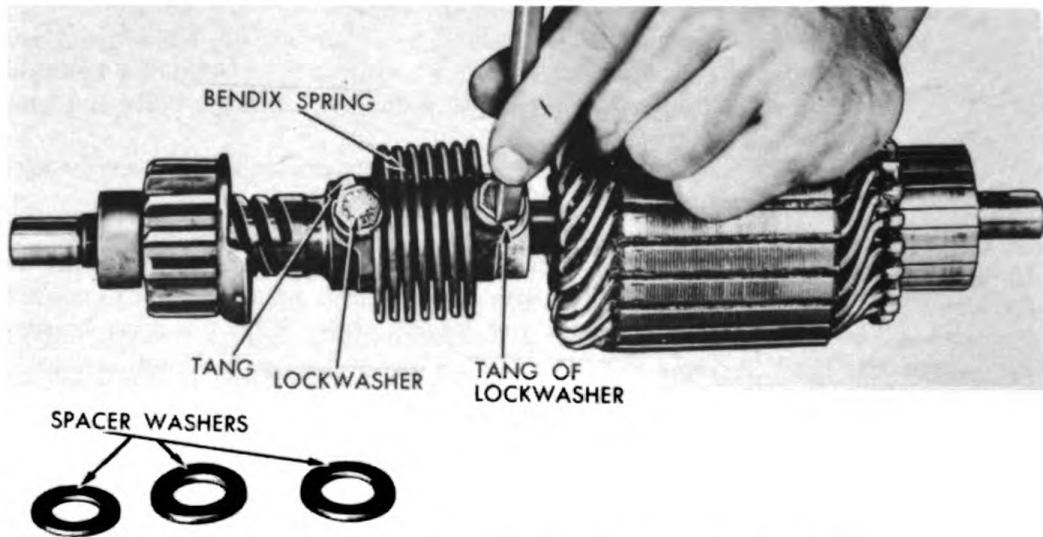

Figure 236. Bending Lockwasher Tang on Bendix Drive.
- e. The Bendix Drive may be removed from the drive shaft by bending down the tang of the lockwasher and unscrewing the Bendix Drive head attaching screw. The Bendix Drive assembly will slip off the shaft. Remove the woodruff key from the shaft. If necessary, the Bendix Drive may be further disassembled by removing the other drive spring attaching screw after bending down the tang of the lockwasher. See figure 236.